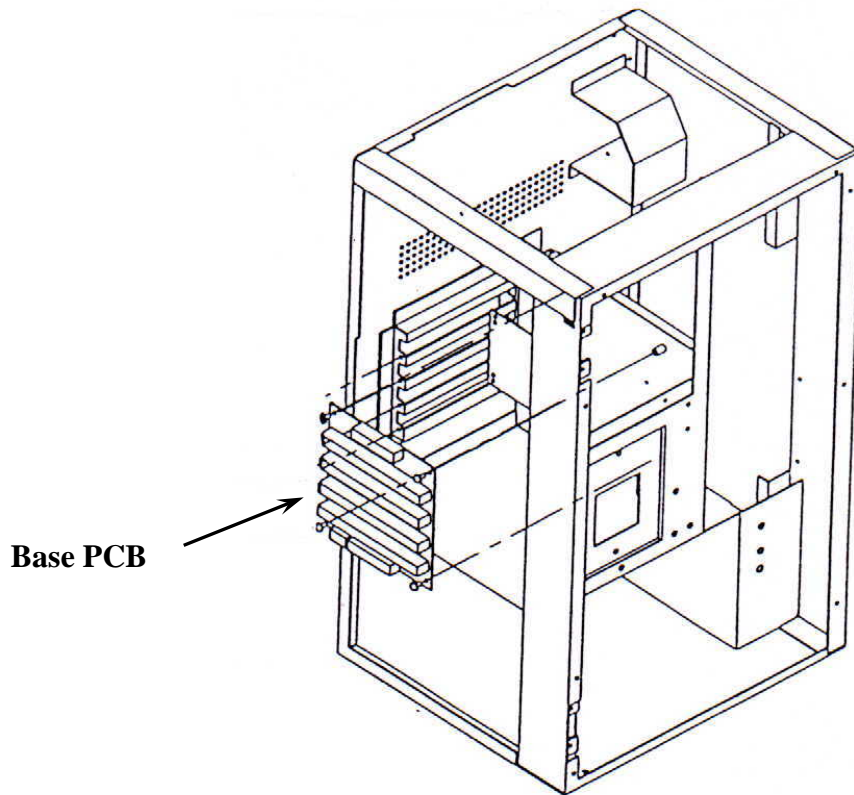

Figure 3-6. Base PCB Replacement.
6. Remove the four screws on the Base PCB (Figure 3-6).
3. Fasten the four screws on the Base PCB (Figure 3-6).